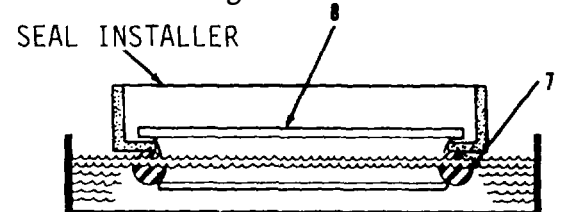

Figure 5-93.
16. Install seal installer on seal (8) and ring (7, Figure 5-93).
17. Using a seal installer, lower seal (8) and ring (7) into container of Trichloroethane until ring (7) is completely wet.